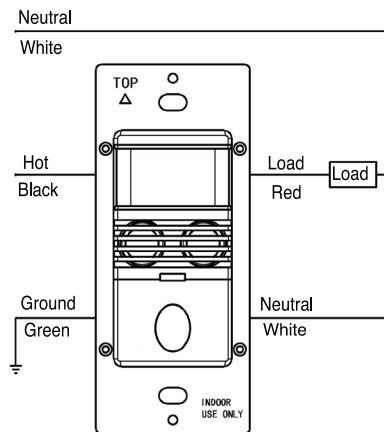

Figure 2
2. Connect lead wires as WIRING DIAGRAM (see Figure 2): Black lead to Line (Hot), Red lead to Load wire, White lead to Neutral wire, Green lead to Ground.